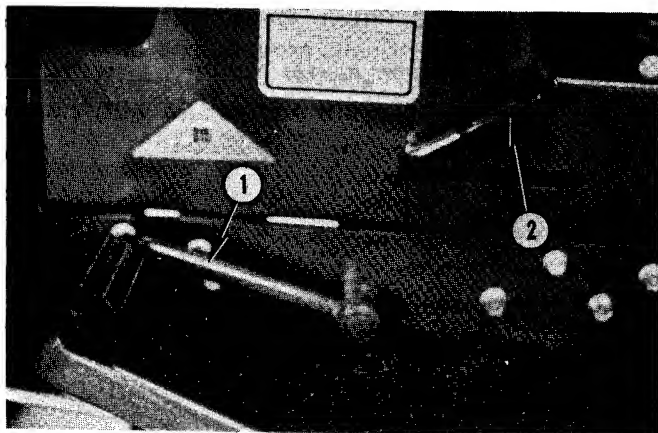

Fig. 29 — Brake Adjustment
1. Remove rear PTO cover plate, No. 5, Fig. 29, and loosen belt tension.
1. Depress clutch-brake pedal, No. 1, Fig. 29, and engage parking brake lever, No. 2.